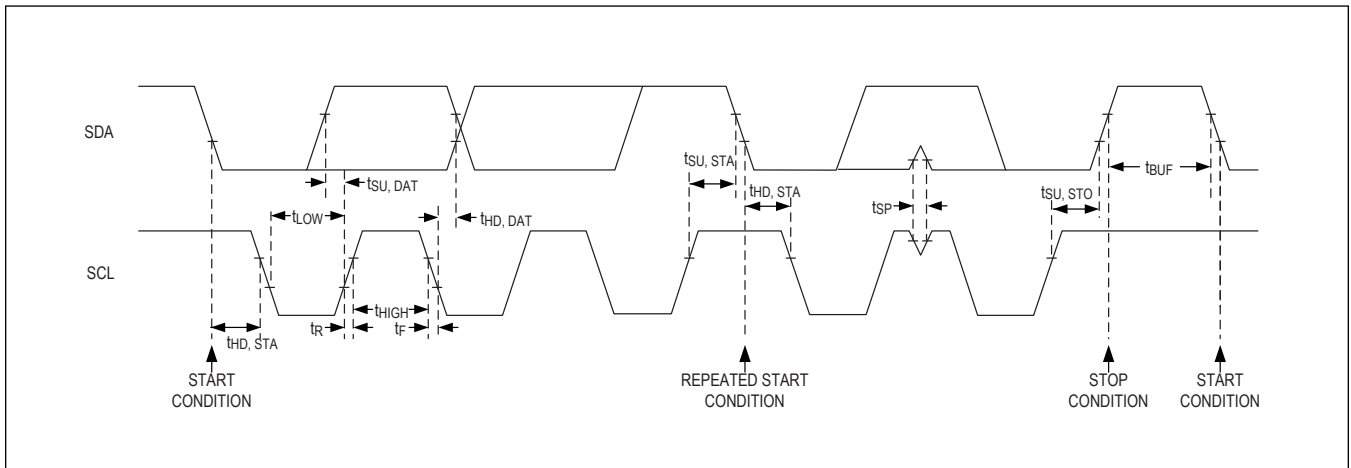

Figure 21. Detailed I2C Timing Diagram
The I2C interface on the MAX30009 is an I2C-/SMBus-compatible, two-wire serial interface consisting of an SDA and a SCL. In the I2C mode, the SDI/SDA pin operates as SDA and the SCLK/SCL pin operates as SCL. These two pins are used for the communication between the MAX30009 and the controller at clock rates up to 400kHz. Figure 21 shows the two-wire interface timing diagram. The controller generates SCL and initiates data transfer on the bus. The controller device writes data to the MAX30009 by transmitting the proper target address, followed by the register address, and then the data word. Each transmit sequence is framed by a START (S) or REPEATED START (Sr) condition, and a STOP (P) condition. Each word transmitted to the MAX30009 is 8-bits long and is followed by an acknowledge clock pulse. A controller reading data from the MAX30009 transmits the proper target address, followed by a series of nine SCL pulses. The MAX30009 transmits data on SDA in sync with the controller-generated SCL pulses. The controller acknowledges receipt of each byte of data. Each read sequence is framed by a START (S) or REPEATED START (Sr) condition, a not acknowledge (NACK), and a STOP (P) condition. SDA operates as both an input and open-drain output. A pullup resistor is required on SDA. SCL operates only as an input. A pullup resistor is required on SCL if there are multiple controllers on the bus, or if the single controller has an open-drain SCL output. Series resistors in line with SDA and SCL are optional. Series resistors protect the digital inputs from high-voltage spikes on the bus lines, and minimize crosstalk and undershoot of the bus signals.